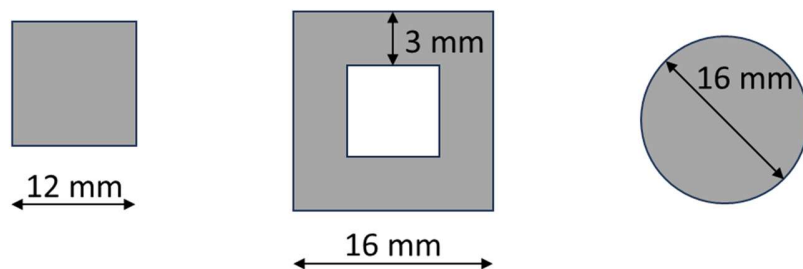

Figure 3: 3 possible cross sections (not to scale): original solid square (left), hollow square (middle) and solid circular (right)
The Ingenuity has 2 rotor blades, that are rotating in different direction (for an interactive 3D model, see <https://www.jpl.nasa.gov/missions/ingenuity>). At the bottom there are some avionics systems that can exert a moment. On top there is the solar panel and antenna. In the following, we are looking at the worst case of the avionics system being stuck exerting a moment while the rotors are engaged. This means on the supporting beam we have a moment M of 500 Nmm from the avionics, and 2 forces F of 850 N from the blades acting. In addition, there is the weight of the solar panels that is leading to a distributed load q of 25 N/mm. For convenience, the beam is rotated 90 degrees. You can assume the beam is fully clamped at point A. Beam ABCDE and EF are made of steel ($E = 210$ GPa, $\nu = 0.3$) with a square cross section with a side of 12 mm, as shown in Figure 3 on the left.
- d) A re-design is in order, where you want to find the lightest option possible. You have two materials available to you: aluminium ($E = 70 \text{ GPa}$, $\nu=0.31$, density = 2700 kg/m^3 , yield strength 270 MPa) or steel ($E = 210 \text{ GPa}$, $\nu=0.3$, density = 8000 kg/m^3 , yield strength 550 MPa) and three types of cross sections: the solid rectangular section currently used, and two profiles with dimensions shown in Figure 3 (all have the same thickness in all parts): a solid circular profile with diameter of 16 mm or hollow square profile, with outer dimension of 16 mm and thickness of 3 mm . For manufacturing reasons, the horizontal part (ABCDE) has to be the same material and cross section all throughout the part ABCDE (but it can be different from the original design); the vertical part (EF) can be a different material and cross section than part ABCDE. The following constraints have to be satisfied: